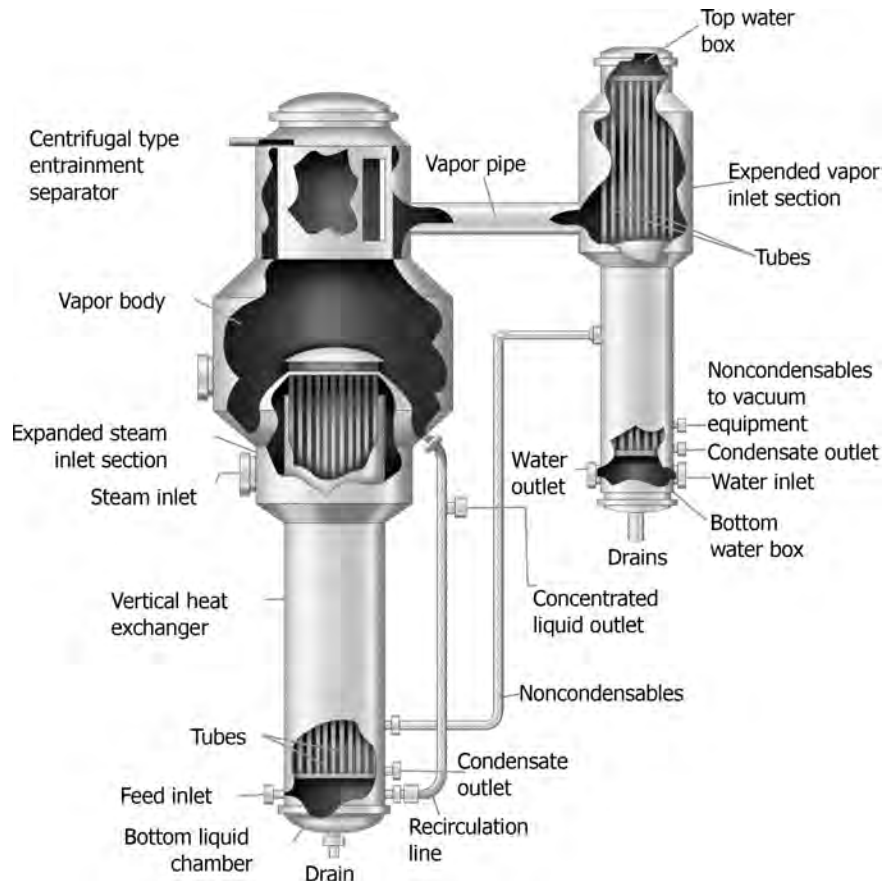

FIGURE 11.18 Swenson rising film evaporator unit. (Courtesy: Swenson Technology, Inc.)
- In *rising film evaporators*, liquid is fed into the bottom liquid chamber and then into the tubes. As a result of the upward movement of the vapor bubbles, the liquid rises to the top (Figure 11.18).